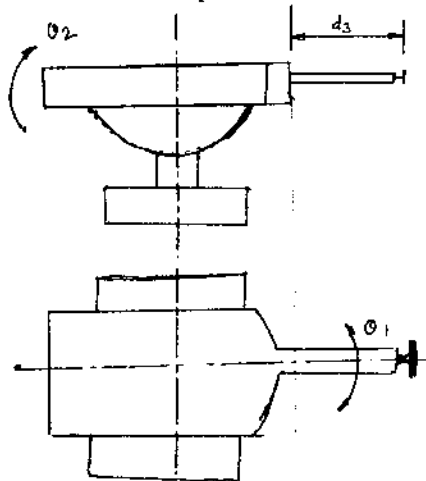

Fig.Q4(a)
- 4 a. A spherical manipulator as shown in Fig.Q4(a) has the first two links, each having a length 1250 mm, and the prismatic joint allows a maximum sliding range of  $d_3 = 500$  mm. The limits of the revolute joints permits a maximum range of  $\theta_1 = 180^\circ$  and  $\theta_2 = 90^\circ$ . Find the structural length index when the tool tip to be at a distance of 1500 in maximum reach position from the center of the workspace. (10 Marks)